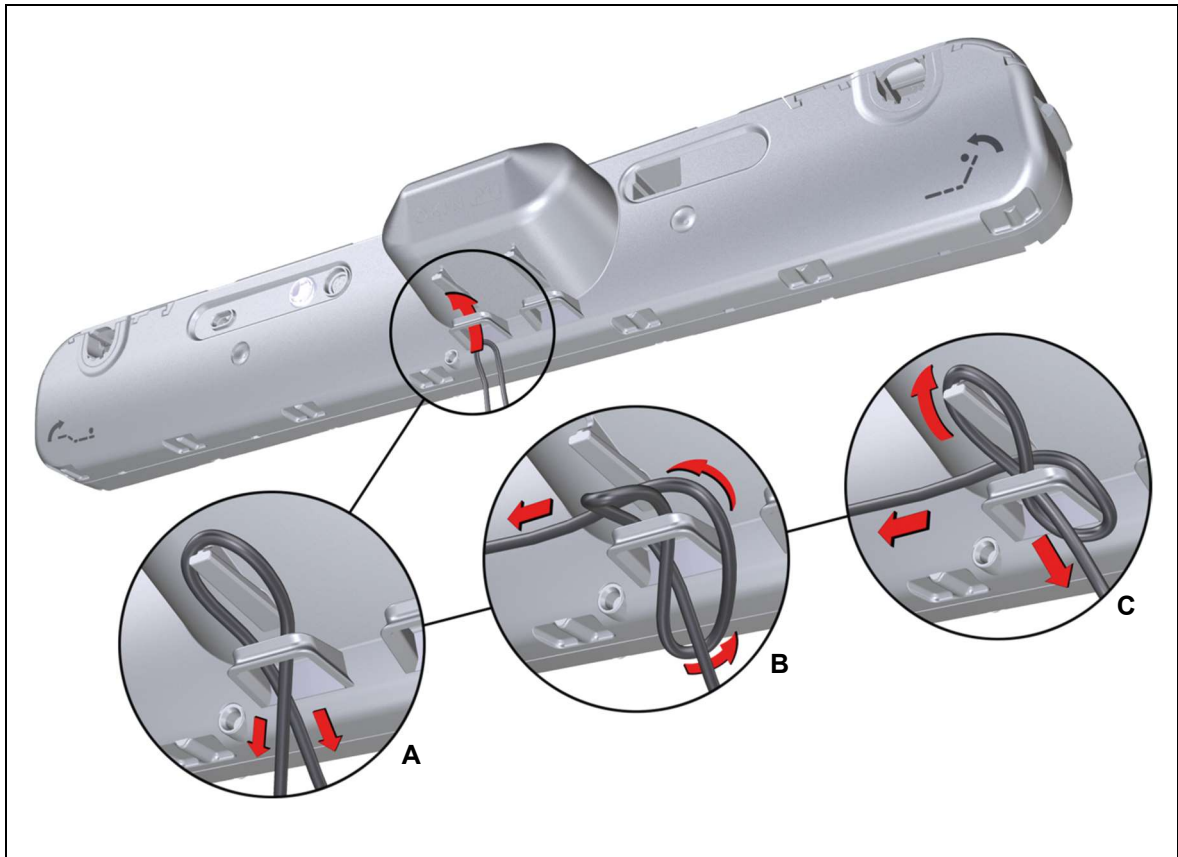

Figure 15 Looping the cable through the strain relief mechanism
- 2 Push the cable in a loop through the strain relief (as shown by **A** in Figure 15).
- 3 Run the right cable strand first under the left strand and then behind and through the loop (as shown by **B** in Figure 15).
- 4 Place the loop over the peg on the drive and pull the loop back slightly (as shown by **C** in Figure 15).